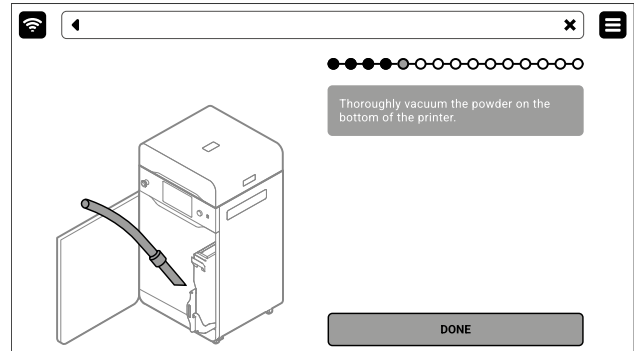

Fig. 13.41 Vacuum the powder on the bottom of the printer.
12. Choose the right nozzle and vacuum the surface under the Beds thoroughly (fig. 13.41). Press the **DONE** button.